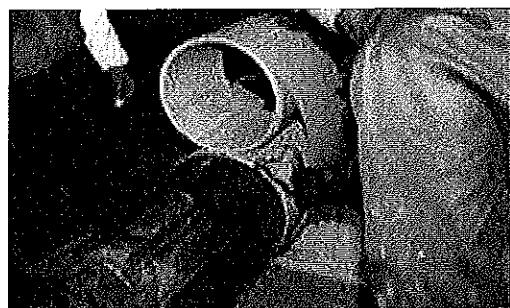

Figure 3
- 4.4 Dry apply 2 – 3 wraps of Clock Spring® sleeve around the defect area for "marking" purposes (Figure 3). (An alternative is to use any item (i.e. pipe wrap, plastic strip, etc.), which will conform to the pipe.) Center the Clock Spring® over the repair ensuring a 2-inch (51 mm) overlap on each side of the defect. Mark the edge of the Clock Spring®. This reference mark will be used later in the procedure.